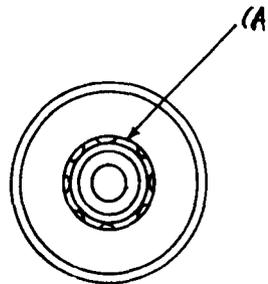

Fig. 2 - Countershaft Bearing
(5) Counter Shaft Bearings: In applying the oil to the counter shaft bearings, place the drop of oil in the circular space or opening shown in Fig. 2(A). The drop of oil will find its way to the inside of the bearing and will help to keep the original lubricant there from drying out. Difficulty may be encountered in reaching the rear bearing of the counter shaft to apply the drop of oil. To overcome this bend the wire, with which the drop of oil is to be applied, into an arc or curve. A flashlight will be helpful by making it easier to see the circular space on the bearing Fig. 2(A) where the drop of oil should be placed. If possible to do so, removing the can cover from equipment mounted immediately above the 6B Control Unit will make it easier to reach the rear bearing.